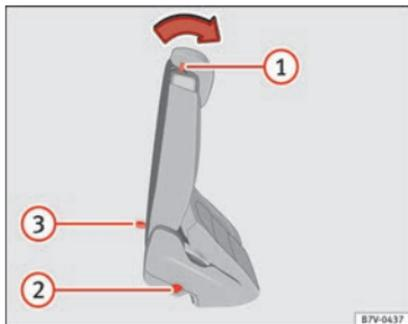

Fig. 158 Second row of seats: convenient entry function controls
- Push the lever » Fig. 158 1 forwards and fold the backrest of the rear seat. This seat folds forward completely » Δ and can still be moved further forward.
- Make sure that the rear seat is securely engaged so that the seat belts can provide proper protection in the rear seats. The red mark » Fig. 158 2 should no longer be visible » Δ in Folding down rear seats to create load space on page 154.
If the lever » Fig. 158 1 does not work, e.g. after an accident, the seats on the second row can be folded forwards from the third row to allow vehicle occupants of the third row of seats to get out of the vehicle » Δ.
- Pull the handle » Fig. 158 3 back and fold the backrest of the rear seat. The complete rear seat folds forward » Δ.
• A red mark on the side of the seat »» Fig. 158 ② indicates that the seat backrest is not engaged. The mark is no longer visible when it is correctly engaged.